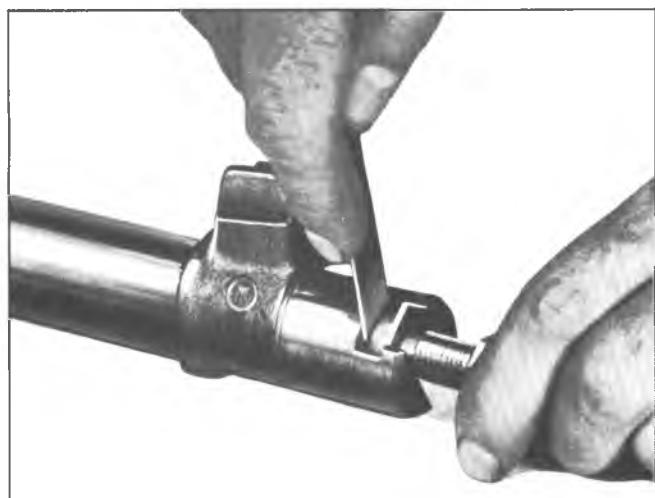

Fig. 16-Checking Lash Adjuster End Clearance
5. Position the lash adjuster (with shim) in the slotted end of the pitman shaft. Check the end clearance, which should not be greater than .002" (fig. 16). If clearance is greater than .002", a steering gear lash